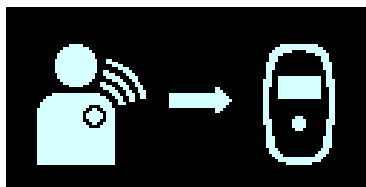

Figure 85: IPG Data Download Screen
4. The charging process begins with a display of the IPG Data Download and IPG Data Download Success screens. **See Figures 85 and 86.**